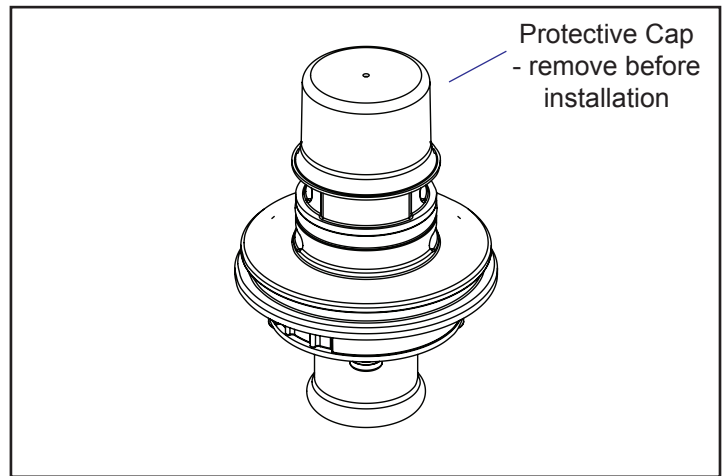

Figure 3 – Purge Valve with Protective Cap
Use only the lubricant packaged with this kit. Install the purge valve assembly immediately after removal of the protective cap and application of lubrication to the seals and o-rings. Delaying installation of purge valve assembly into the dryer may result in damage to the purge piston seals. *Refer to Figure 3.*
Use only the lubricant (6) packaged with this kit. Install the purge valve assembly immediately after removal of the protective cap and application of lubrication to the seals and o-rings. Delaying installation of the purge valve assembly into the dryer may result in damage to the purge piston seals. Refer to Figure 3.